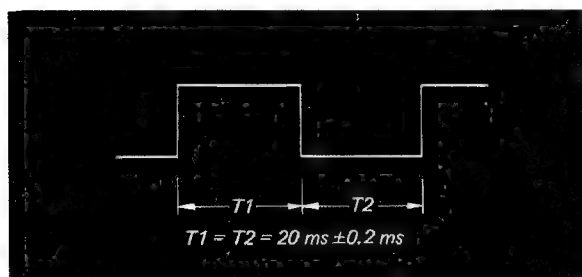

Fig. 7-12. 25 PG Pulse phase check
2. Adjust R495 so that T1 and T2 are 20 ms ± 0.2 msec (50% duty cycle) as shown in Fig. 7-12.